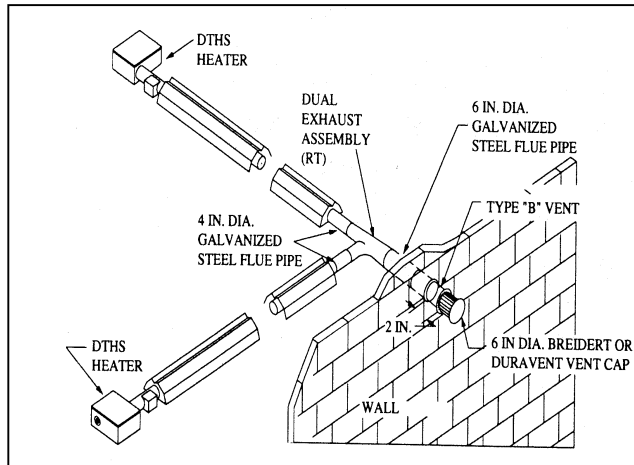

Figure 1-23
- A common flue of 6 in. diameter must be used for double-venting of units. One thermostat must control both units. **When common venting is used, flues should be connected so that the by-products of one heater cannot flow into the adjoining flue of the other heater.** A dual exhaust assembly is available from Detroit Radiant Products, Part No. Y or RT (see Figures 1-23 through 1-24).